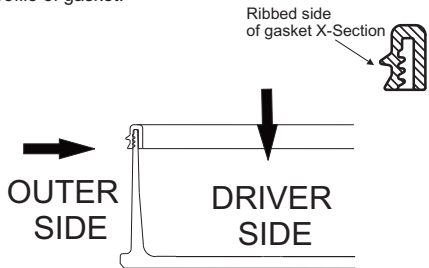

Fig.4
4. Secure the Gasket on the housing ribs. Ensure ribbed side of gasket is on the outer side. (As shown in Fig 4)